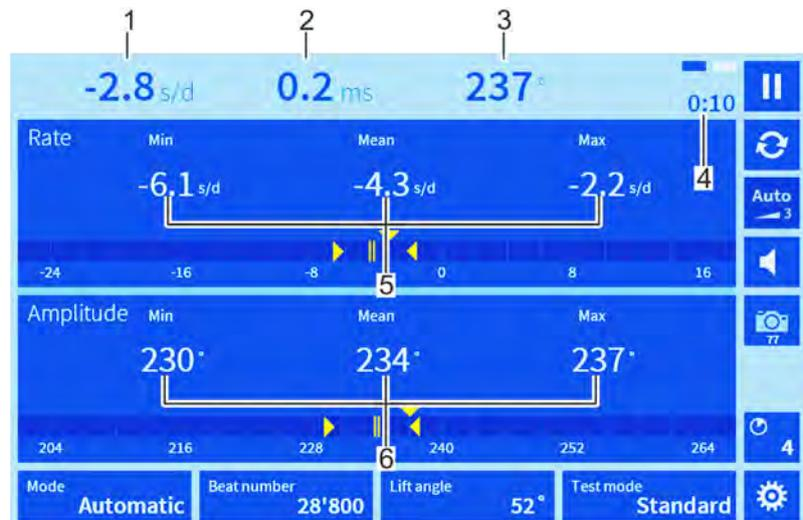

Fig. 27: VARIO display mode
In the VARIO display mode, the rate (Fig. 27/1), beat error (repère) (Fig. 27/2) and amplitude (Fig. 27/3) are illustrated numerically.
The flashing rectangles (Fig. 27/4) show that a signal is being received. The elapsed measuring time is displayed underneath (Fig. 27/4).
During the measuring procedure, the smallest, largest and resulting mean measured values are shown for rate stability (Fig. 27/5) and amplitude (Fig. 27/6).
- The difference between the smallest and largest rate value (Fig. 27/5) is an indicator for the rate quality of the watch. The smaller the difference, the better the rate stability.